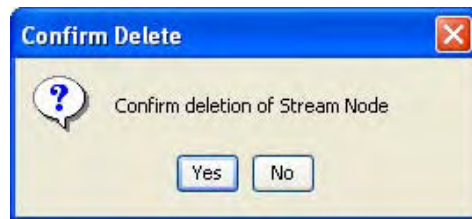

Figure 5.18 Confirm Delete of Stream Node
5. A **Confirm Delete** message will display (Figure 5.18) asking you whether you really want to delete the selected stream node.